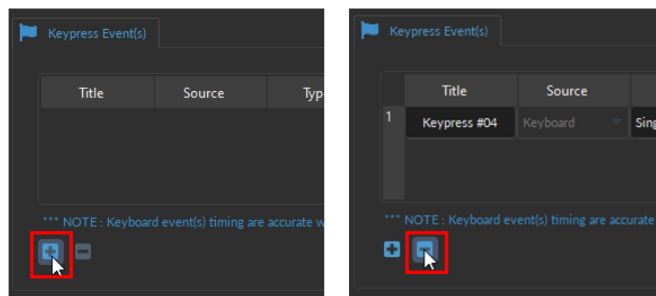

Figure 7.11: Adding and Removing Keypress Events
To add a new **KeyPress Event**, select the + sign at the bottom of the window (Fig. 7.11, left). To remove a KeyPress, use - button (Fig. 7.11, right).
- **NOTE:** Selecting the + button (without clicking the *Add* button or the *Close* of the *Channel Configuration* window) will **automatically** add the Keypress Event channel at the **bottom** of the Acquisition View window, below the video feed (Fig. 7.11).